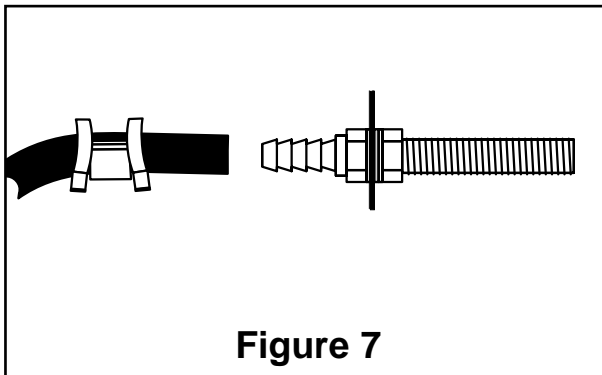

Figure 7
K. Slide air line clamp over the air line. Push air line onto fitting covering all barbs, with pliers slide the air line clamp forward until it fully covers the barbed section (Figure 7).
I. Slide a clamp onto the air line and push the air line over the fitting, covering all the barbs. With pliers slide the air line clamp forward until it fully covers the barbed section (Figure 7).